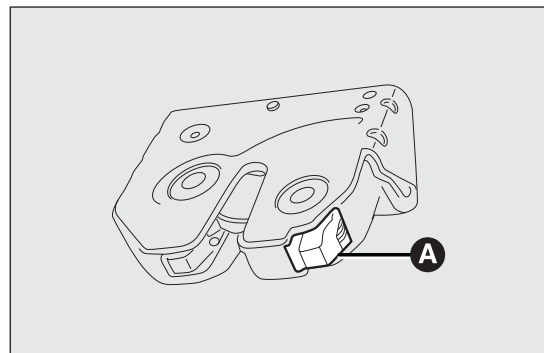

fig. 54
- ☐ to unlock the tailgate mechanically, working from the inside of the boot, use lever A fig. 54.